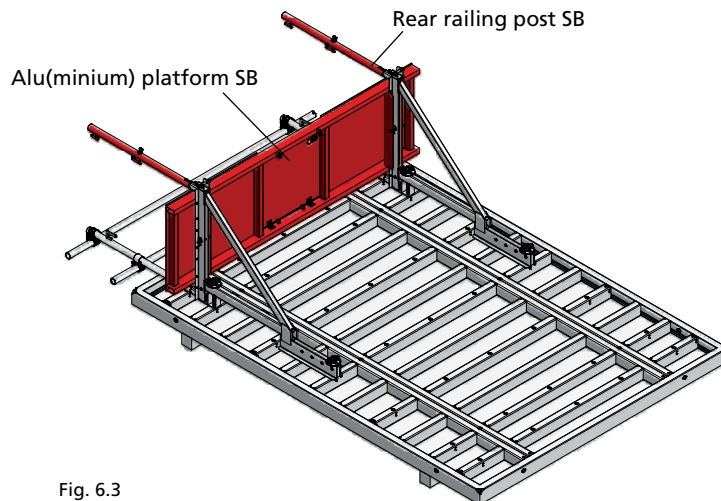

Fig. 6.3
3. Place the aluminium platform – with or without hatch – onto the scaffolding brackets SB (Fig. 6.3). Make sure that the profiles on the underside of the platform rest between the L profiles of the scaffolding brackets. The platform is attached with the bolts integrated in the scaffolding brackets and secured with cotter pins.
4. Attach the rear railing posts to the scaffolding brackets SB (Fig. 6.3).